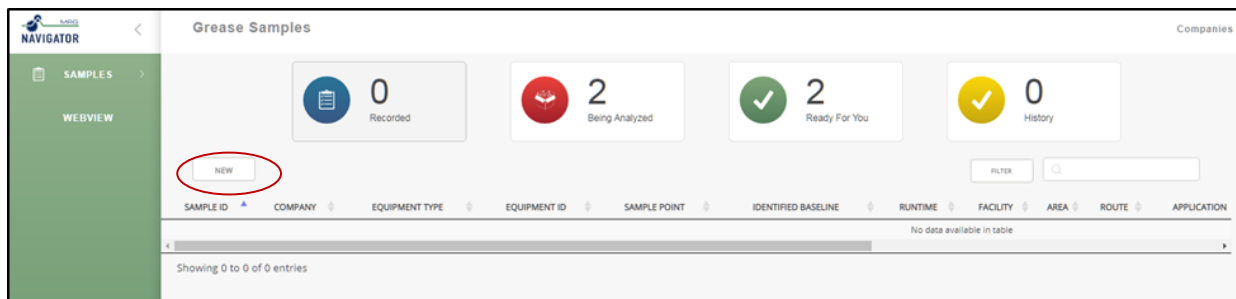

Figure 3 View of Recorded Page in Grease Dashboard. New Sample button is circled in red.
- To enter an individual sample, push the **New** button in the upper left hand of the window (**Figure 3**). This will open the “New Sample Input” window (**Figure 4**). If entering multiple samples at one time, skip to step 12.